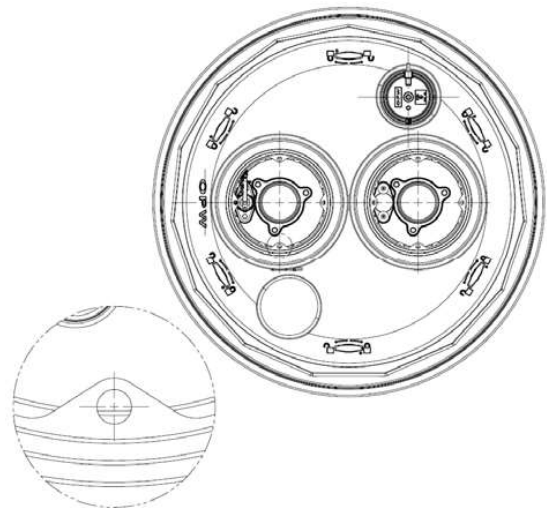

Figure 46
63. Align holes on shroud boots with holes in spill container upper ring and bellows. After aligning holes tighten shroud boot clamps to 60 in-lbs. See Figure 46.